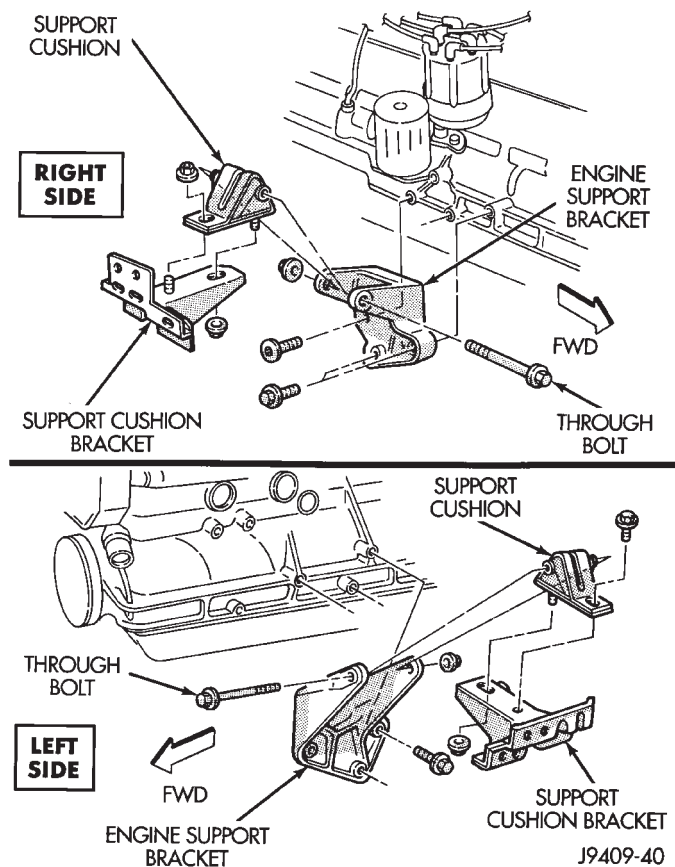

Fig. 25 Front Mounts
- (1) Disconnect negative cable from battery.
- (2) Raise the vehicle.
- (3) Support the engine.
- (4) Remove the nut from the through bolt (Fig. 25). DO NOT remove the through bolt.
- (5) Remove the retaining bolts and nuts from the support cushions (Fig. 25).
- (6) Remove the through bolt.
- (7) Remove the support cushions.
- (1) If the engine support bracket was removed, position the bracket onto the block and install the attaching bolts (Fig. 25). Tighten the engine support bracket bolts to 61 N·m (45 ft. lbs.) torque.
- (3) Place the support cushion into position on the support cushion bracket (Fig. 25). Install and tighten the bolts and nuts to 41 N·m (30 ft. lbs.) torque.
- (4) Install the through bolt and the retaining nut (Fig. 25). Tighten the through bolt nut to 65 N·m (48 ft. lbs.) torque.
- (5) Remove the engine support.
- (6) Lower the vehicle.
- (7) Connect negative cable to battery.